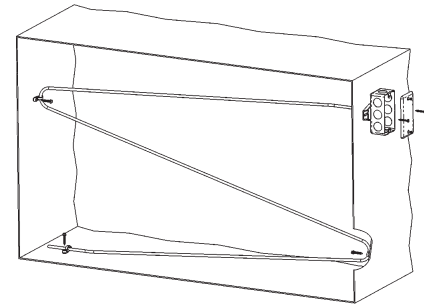
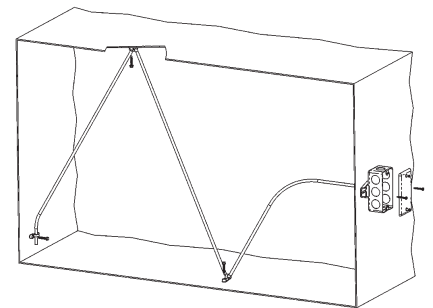

Fig 8: Flexible Sensor Horizontal Mount (Best for Vertical Stratification)
Fig 9: Flexible Sensor Vertical Mount (Best for Horizontal Stratification)
1. Place the sensor in the middle or top of the duct as shown in Fig 8 or Fig 9 so the flexible probe can enter the duct in a convenient place. Drill the probe and mounting holes as depicted for the enclosure being used. (**No Box, Handy Box, BB, BB2, WP, EU, BB4**).
3. Mount the enclosure to the duct using BAPI recommended #8 screws through a minimum of two opposing mounting tabs provided. Weatherproof (WP) enclosures will require assembly of the mounting tabs on opposite corners. A 1/8 inch pilot screw hole in the duct makes mounting easier through the mounting tabs. Use the enclosure tabs to mark the pilot hole locations.